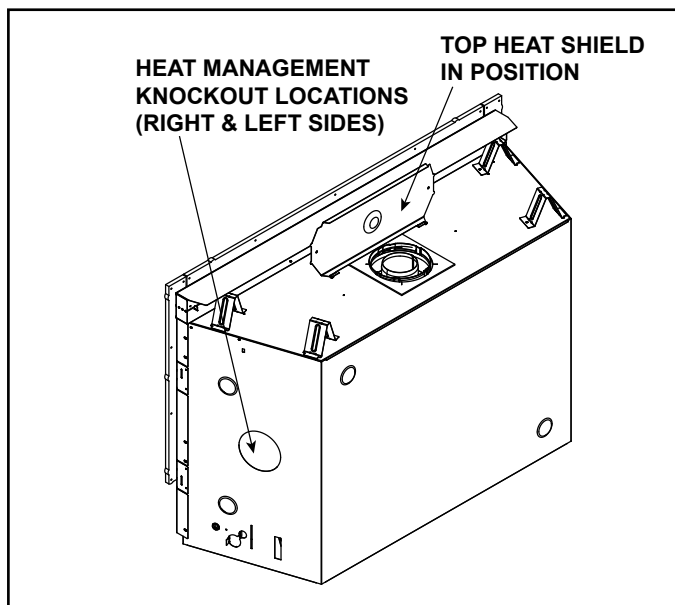

Figure 6.2 JADE42IN/JADE42IL - Top Heat Shield in Position
2. Fold up top heat shield to 90 degrees as shown in Figure 6.2.
- Locate the heat management ports on the left and right sides of the appliance. Either one or two Heat-Zone®-Gas Kits may be installed. See Figure 6.2. Remove the knockouts from the appliance with a tin snips.